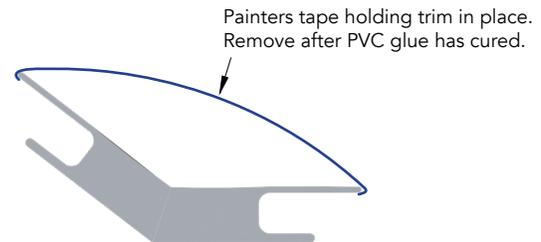

Figure 12
- Secure both trims together at the glued surfaces (Figure 12). Make sure you align your ends and joint.